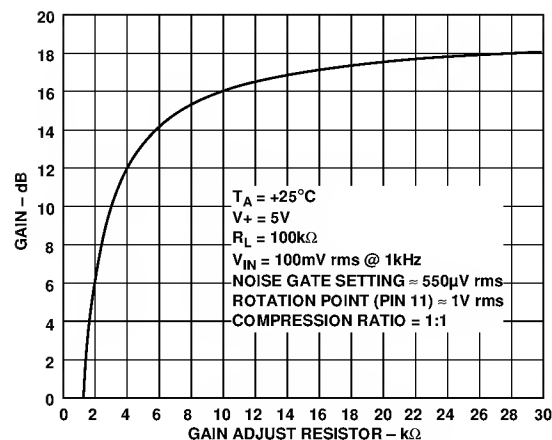
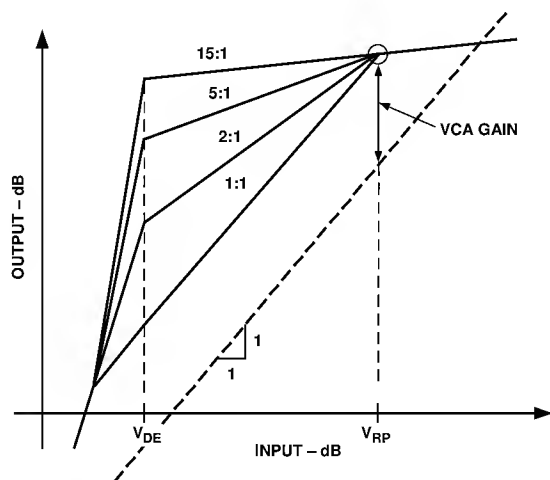
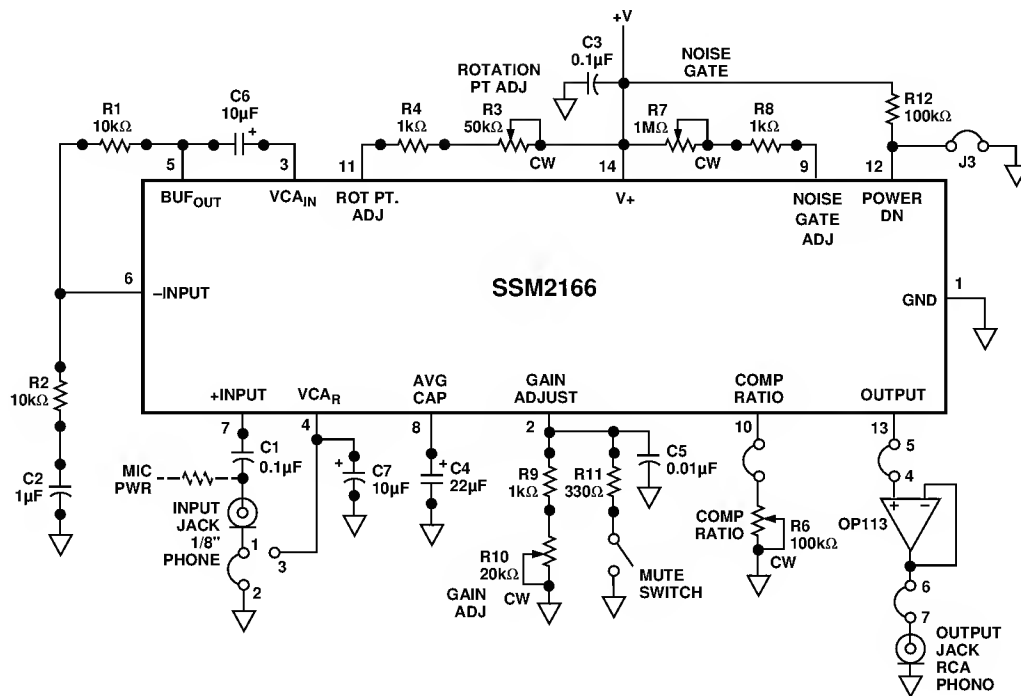
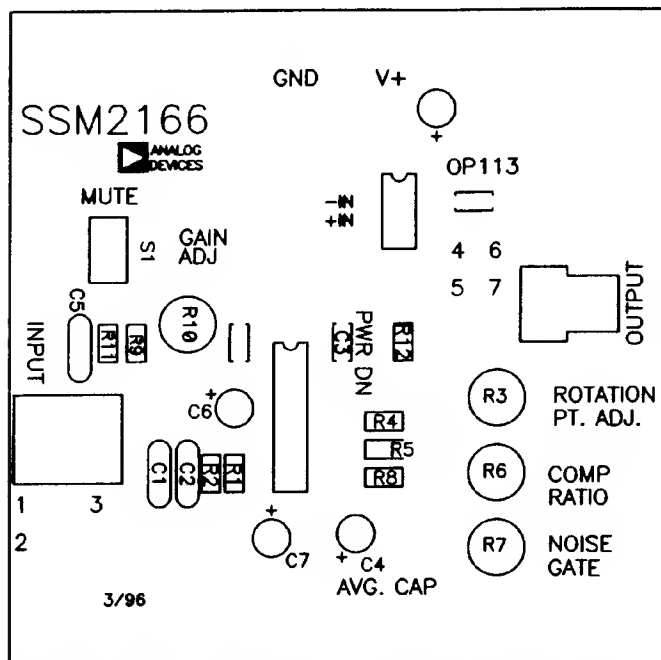

Figure 6. VCA Gain vs.  $R_{GAIN}$  (Pin 2 to GND)
Figure 16. Effect of Varying the Compression Ratio
Figure 22. Evaluation Board
Figure 23a. Evaluation Board Topside Silkscreen (Not to Scale)
The gain of the VCA at the rotation point is set by the value of a resistor connected between Pin 2 and GND,  $R_{GAIN}$ . The relationship between the VCA gain and  $R_{GAIN}$  is shown in Figure 6. The AGC range of the SSM 2166 can be as high as 60 dB. The  $VCA_{IN}$  pin (Pin 3) on the SSM 2166 is the noninverting input terminal to the VCA. The inverting input of the VCA is also available on the SSM 2166's Pin 4 ( $VCA_R$ ) and exhibits an input impedance of 1 k $\Omega$ , as well. As a result, this pin can be used for differential inputs or for the elimination of grounding problems by connecting a capacitor whose value equals that used in series with the  $VCA_{IN}$  pin, to ground. See Figure 22, SSM 2166 Evaluation Board for more details.
**Compression Ratio.** Changing the scaling of the control signal fed to the VCA causes a change in the circuit's compression ratio, "r." This effect is shown in Figure 16. The compression ratio can be set by connecting a resistor between the COMP RATIO pin (Pin 10) and GND. Lowering  $R_{COMP}$  gives smaller compression ratios as indicated in Figure 5, with values of about 17 kΩ or less resulting in a compression ratio of 1:1. AGC performance is achieved with compression ratios between 2:1 and 15:1, and is dependent on the application. A 100 kΩ potentiometer may be used to allow this parameter to be adjusted. On the evaluation board (Figure 22), an optional resistor can be used to set the compression equal to 1:1 when the wiper of the potentiometer is at its full CCW position.
A schematic diagram of the SSM 2166 evaluation board, available upon request from Analog Devices, is illustrated in Figure 22. As a design aid, the layouts for the topside silkscreen, topside and backside metallization layers are shown in Figures 23a, b, and c. Although not shown to scale, the finished dimension of the evaluation board is 3.5 inches by 3.5 inches, and comes complete with pin sockets and a sample of the SSM 2166.
Signal sources are connected to the SSM 2166 through a 1/8" phone jack where a 0.1  $\mu$ F capacitor couples the input signal to the SSM 2166's +IN pin (Pin 7). As shown in Figure 22 and in microphone applications, the phone jack shield can be optionally connected to the board's ground plane (Jumper J1 inserted into board socket pins labeled "1" & "2") or to the SSM 2166's  $VCA_R$  input at Pin 4 (Jumper J1 inserted into board socket pins labeled "1" & "3"). If the signal source is a waveform or function generator, the phone jack shield is to be connected to ground.
To illustrate how easy it is to program the SSM 2166, we will take a practical example. The SSM 2166 will be used interface an electret-type microphone to a post-amplifier. You can use the evaluation board or the circuit configuration shown in Figure 22. The signal from the microphone was measured under actual conditions to vary from 1 mV to 15 mV. The post-amplifier requires no more than 500 mV at its input. The required gain from the SSM 2166 is, therefore:
If you build your own breadboard, keep the leads to Pins 3, 4, and 5 short. A convenient evaluation board is available from your sales representative. The R & C designations refer to the demonstration board schematic of Figure 22 and parts list, Figure 28.